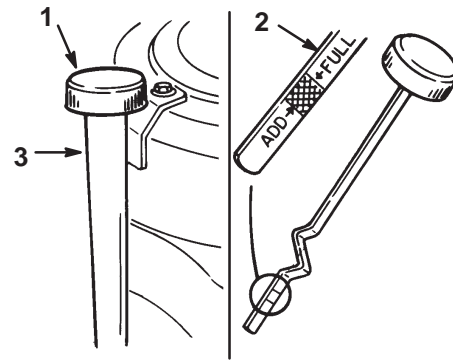

Figure 26
2. Clean around the oil dipstick (Fig. 26) so dirt cannot fall into the filler hole and damage the engine.
3. Unscrew the oil dipstick and wipe the metal end clean (Fig. 26).
4. Thread the oil dipstick fully onto the filler tube (Fig. 26). Pull the dipstick out and look at the metal end. If oil level is low, slowly pour only enough oil into the filler tube to raise the level to the full mark.
5. Slowly pour approximately 80% of the specified oil, on page 23, into the filler cap (Fig. 26). Now check the oil level; refer to Checking the Engine Oil Level, page 23. Slowly add additional oil to bring it to the full mark.